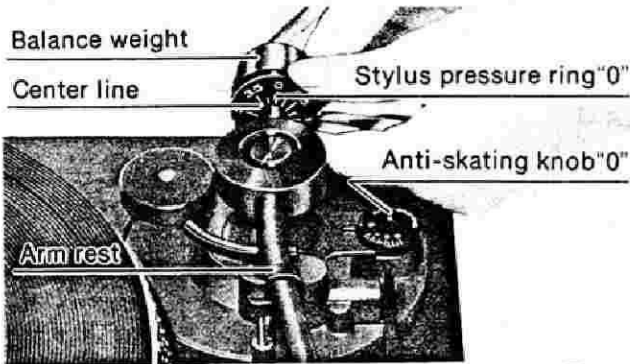

Fig. 4
- After adjusting the horizontal balance, temporarily set the tubular arm in the arm rest, and then rotate only the calibrated stylus pressure ring, taking care not to move the balance weight, so as to bring the number "0" of the stylus pressure ring into alignment with the center line of the tonearm rear shaft. (See Fig. 4)